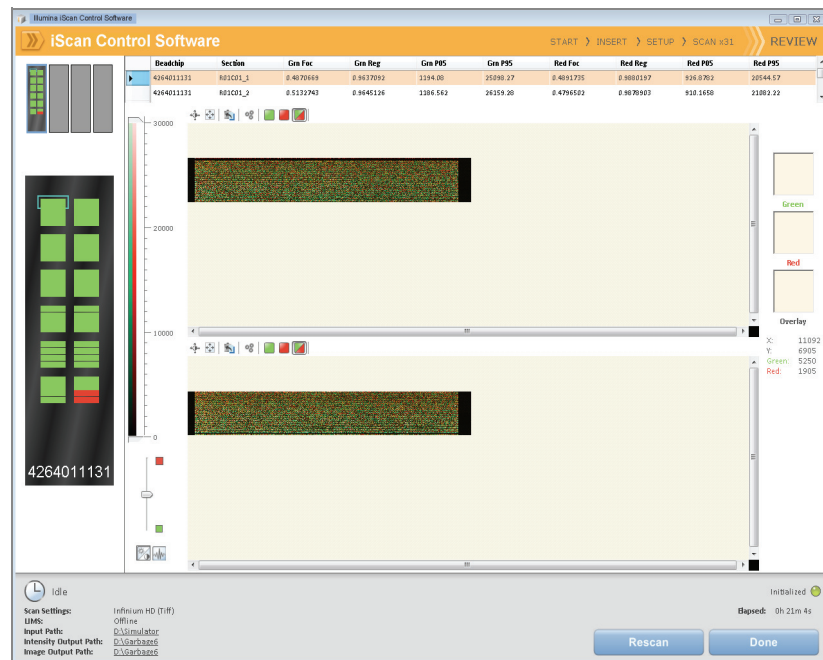

Figure 208 Review Window with Failed Stripes
11. At the end of the scan, a Review window appears (Figure 208). The Scan Metrics table at the top shows the intensity values, registration, and focus metrics for each stripe on the BeadChip.